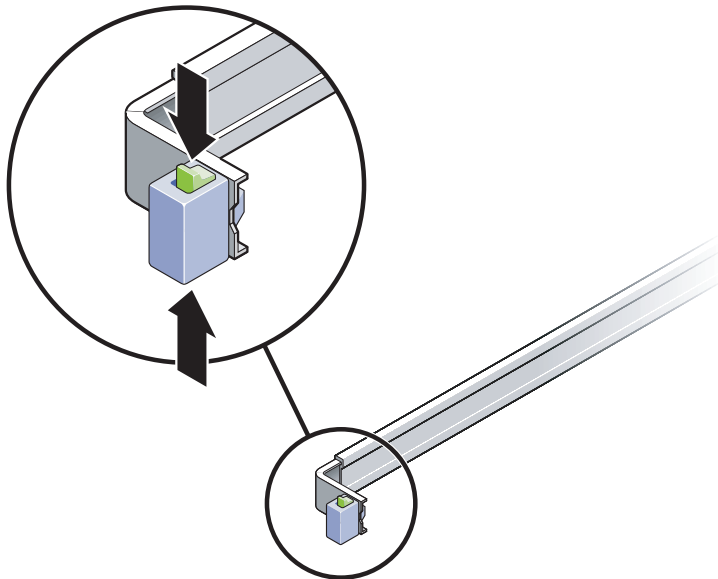

FIGURE 3-1 Unlocking a Mounting Bracket
5. From the front of the server, unlock both mounting brackets (FIGURE 3-1) and pull the server chassis out until the brackets lock in the open position.